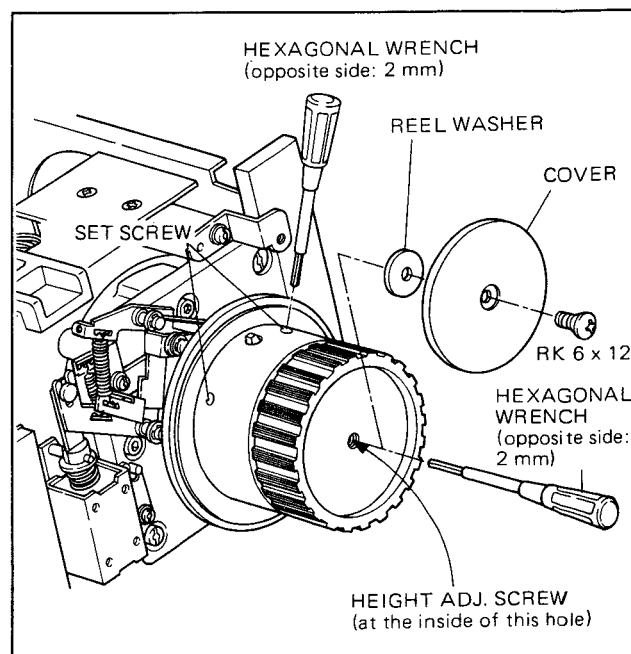

Fig. 6-11. T Reel Table Height Adjustment
- b. Loosen the two set screws securing the reel table, and turn the height adjustment screw shown in Fig. 6-11.